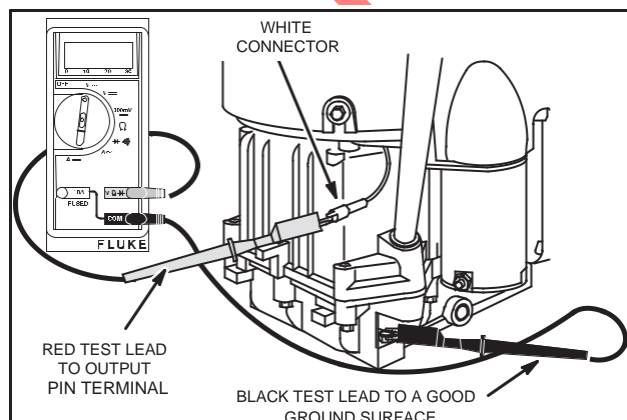

Fig. 10 - Testing AC Output
4. Attach RED test lead clip to AC output terminal, Fig. 10.